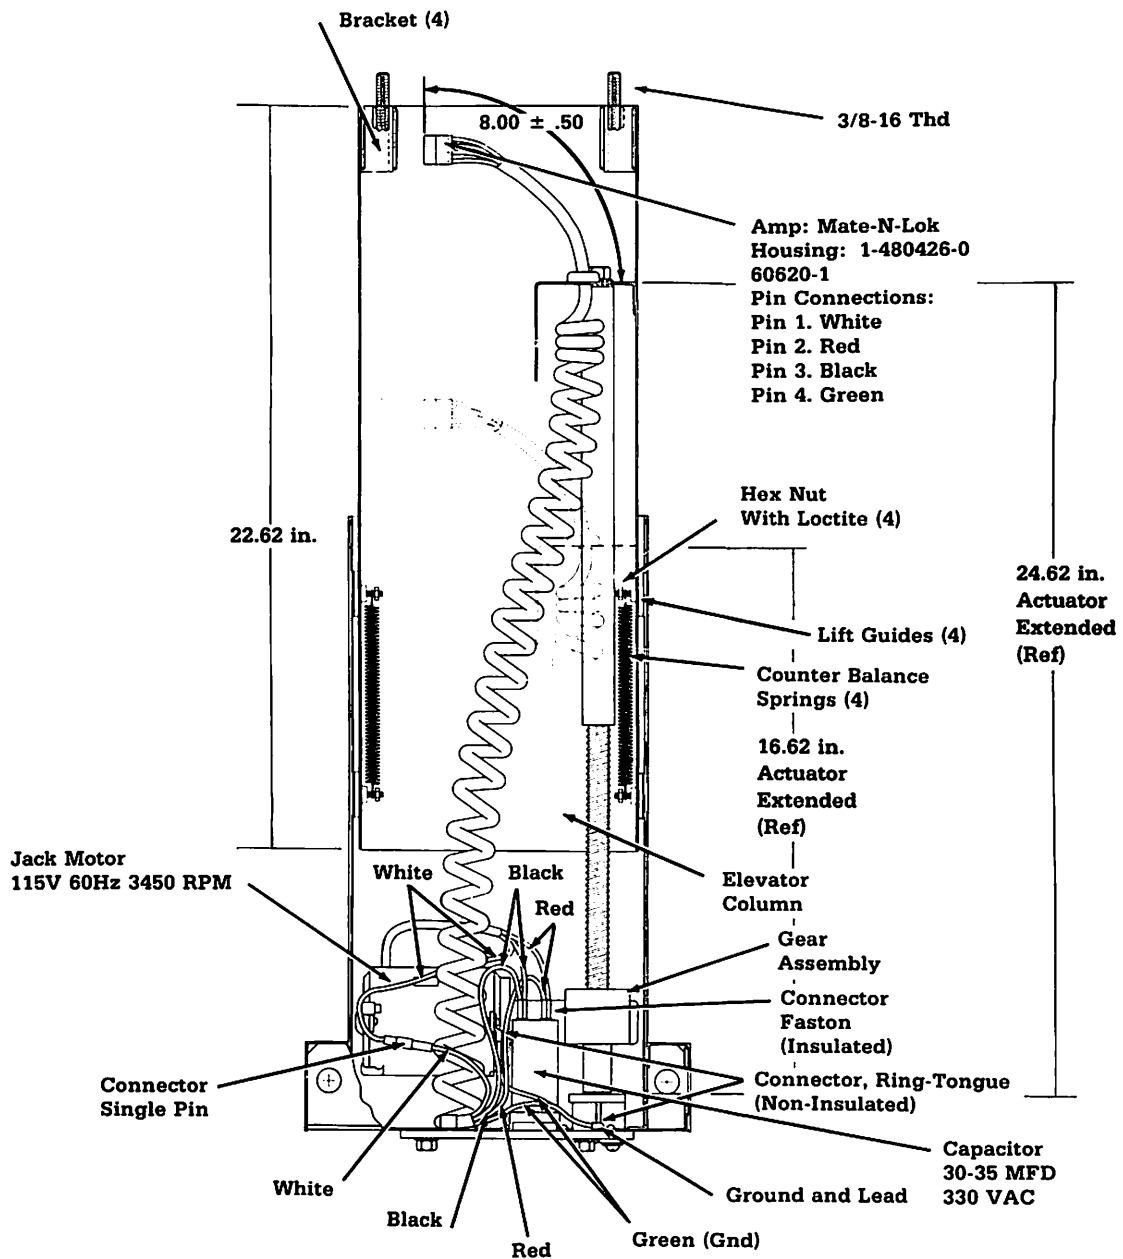

Figure 5-17. Cut-away, Internal Side View; Cable and Wiring Connections
1. Remove the lower end of the four(4) counter-balance springs by removing the hex nuts with a 3/8 inch wrench. See Figure 5-17.